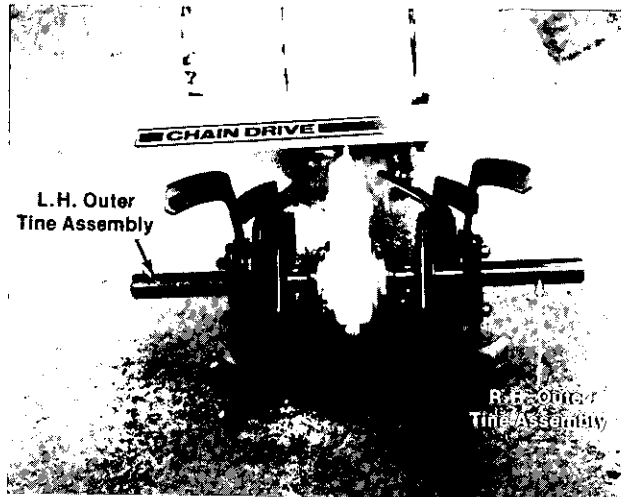

FIGURE 14.
- a. The outer tines have been reversed on the tine shaft for shipping purposes. See figure 14.